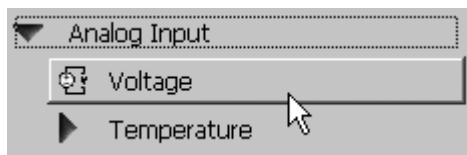

Figure 11.6
3. From the configuration dialog of your DAQ Assistant VI, choose an **Analog Input>>Voltage** measurement type (see Figure 11.6).